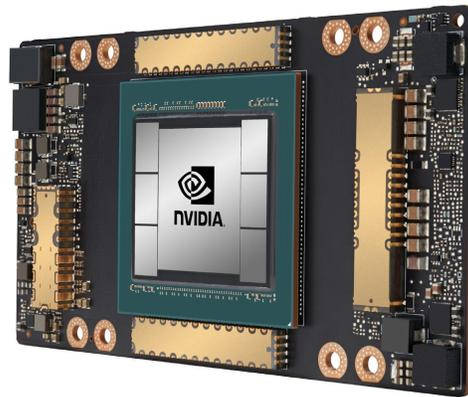

Figure 2. NVIDIA A100 Tensor Core GPU
At the core, the NVIDIA DGX Station A100 system leverages the NVIDIA A100 GPU (Figure 2), designed to efficiently accelerate large complex AI workloads as well as several small workloads, including enhancements and new features for increased performance over the NVIDIA V100 GPU. The A100 GPU incorporates 40 gigabytes (GB) of high-bandwidth HBM2 memory, larger and faster caches, and is designed to reduce AI and HPC software and programming complexity.